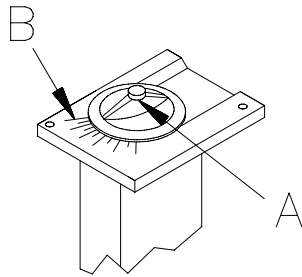

Figure 3
- d. Gradually close air damper to decrease O₂ reading or open air damper to increase O₂ reading until optimum O₂ % (4-5%) is reached. Refer to Figure 3, page 7 for adjustment details.